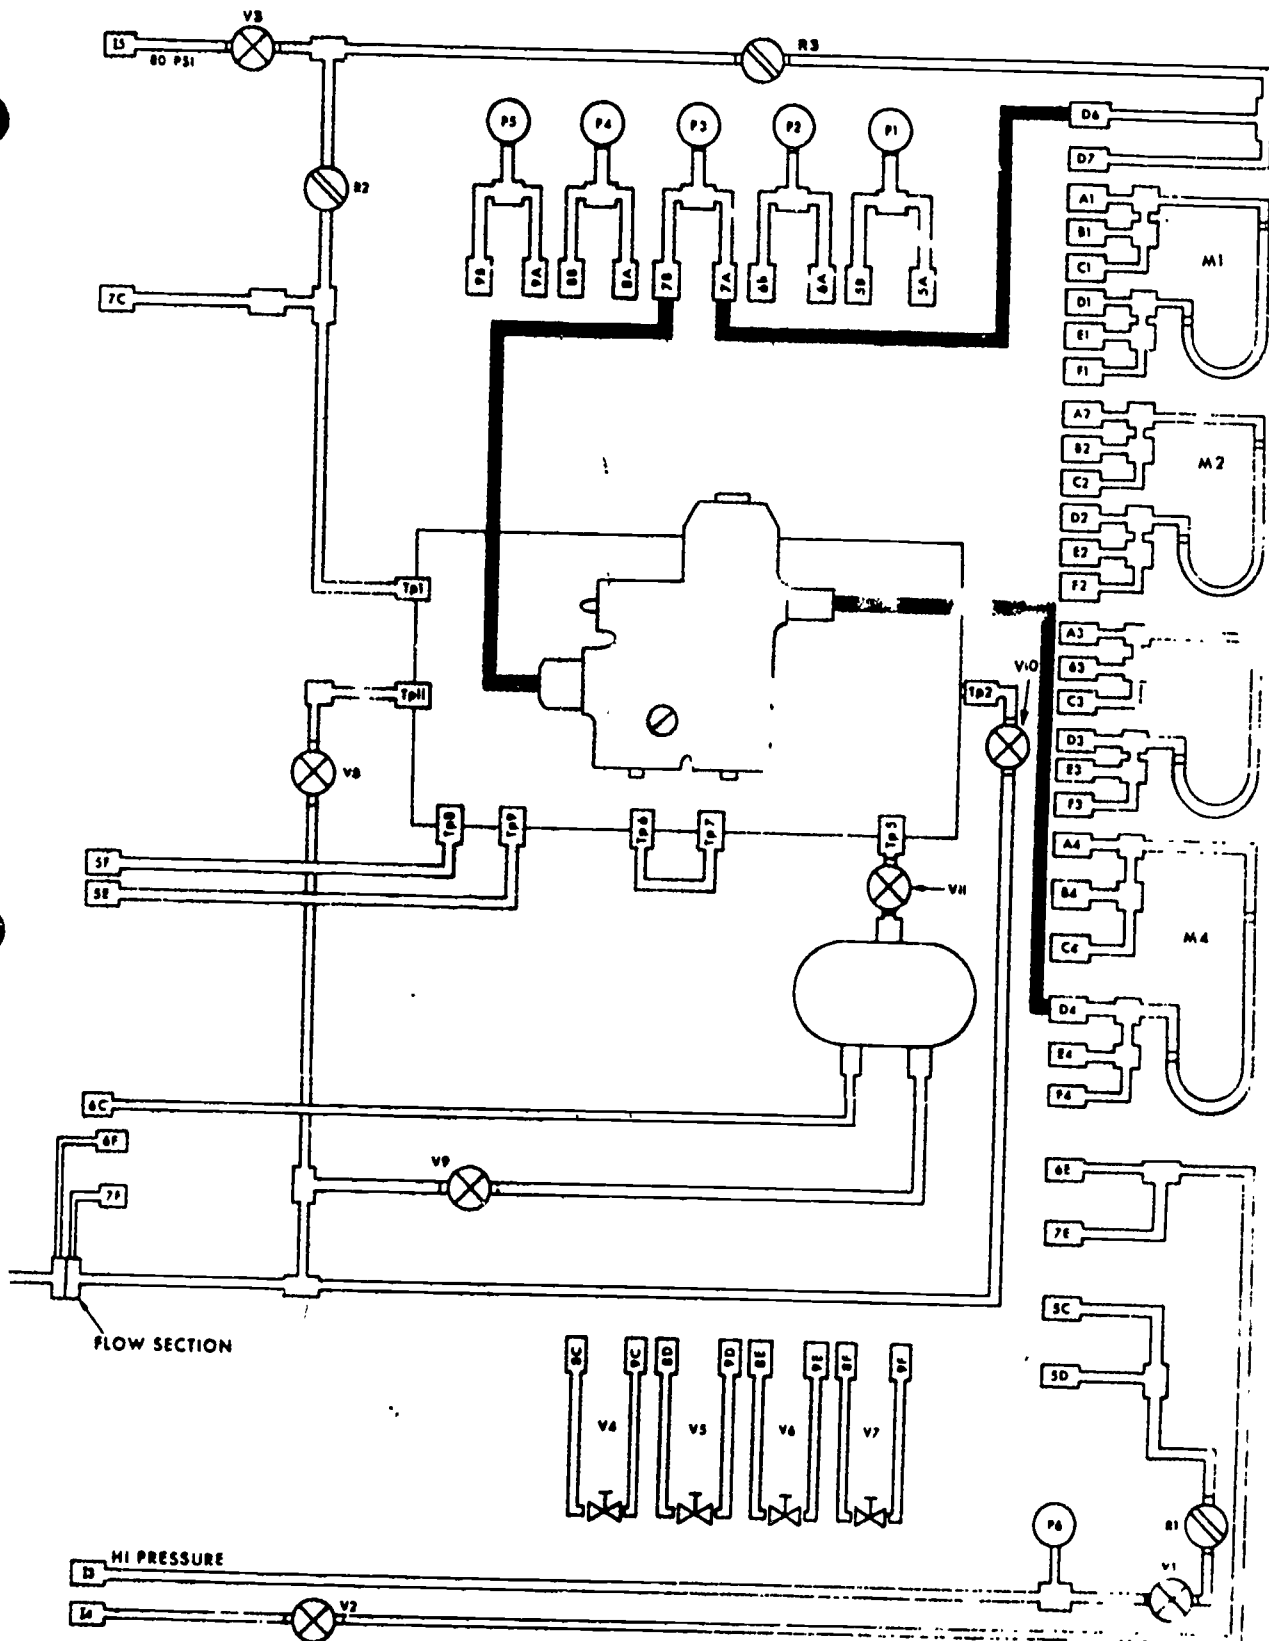

Figure 5. Second Stage Relief Valve Test Hook-up
2. Refer to figure 5 of this text as you connect the anti-G suit valve to the trainer.